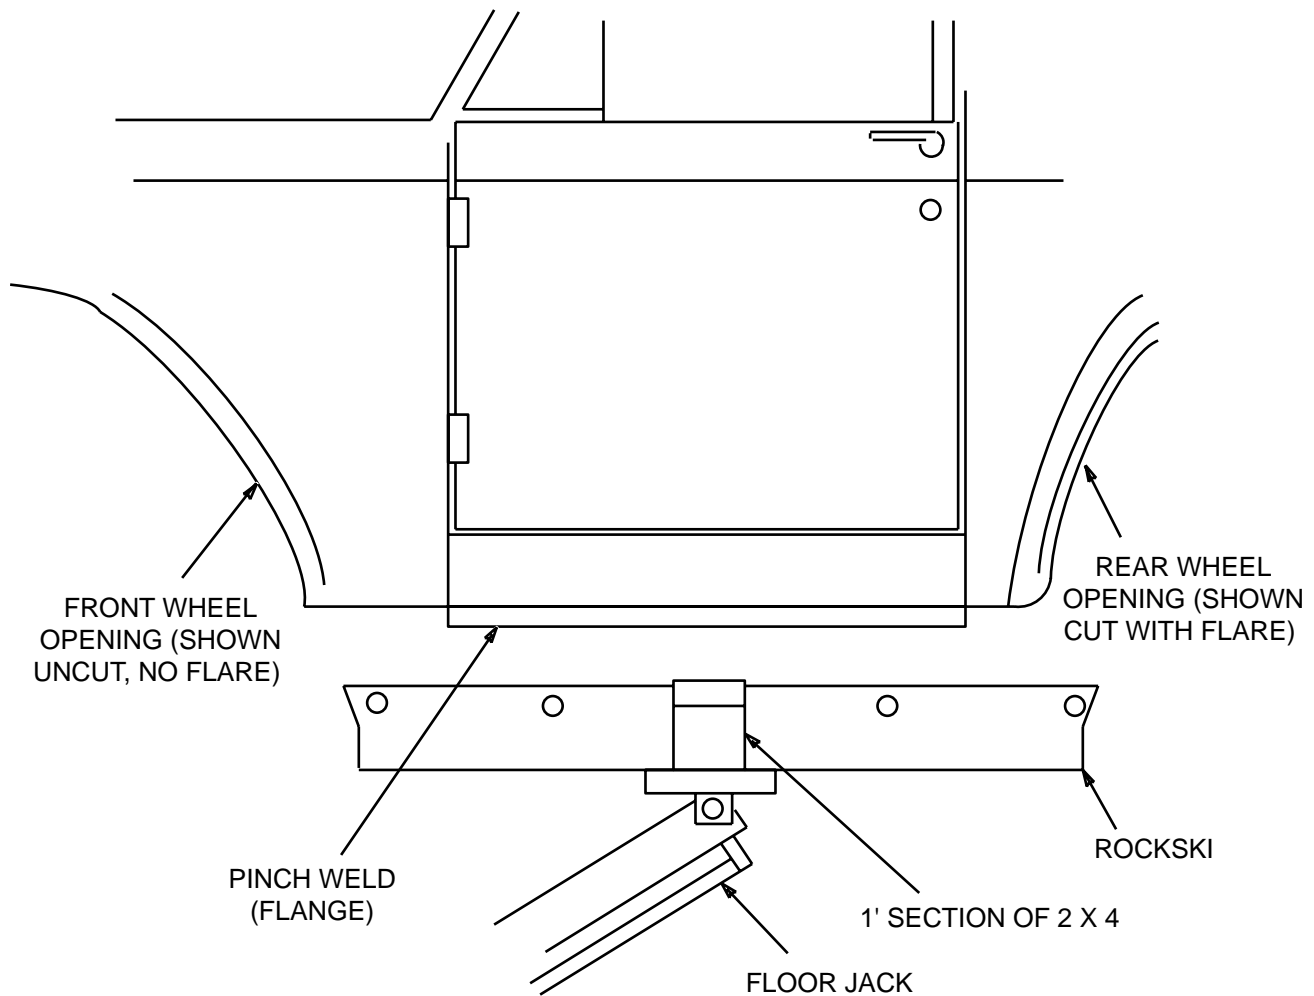

Figure 2
2. With the jack, raise the RockSki up until its bottoms out and there is a 1/4" to 3/8" space below the bottom of the door. Watch for hang-ups, usually around the notch at the front of the RockSki. See Figure 2.
2. With the jack, raise the RockSki up between body and fender flare until it bottoms out. Watch for hang-ups, usually around the notch at the front of the RockSki. See Figure 2.